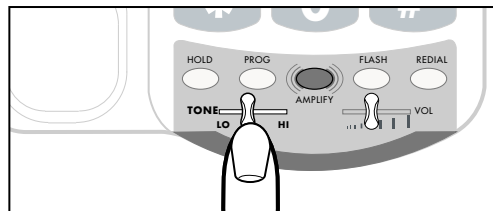

Figure 11 - Tone Slide Control
2. Adjust the **TONE** slide control in Figure 11 to suit your hearing.